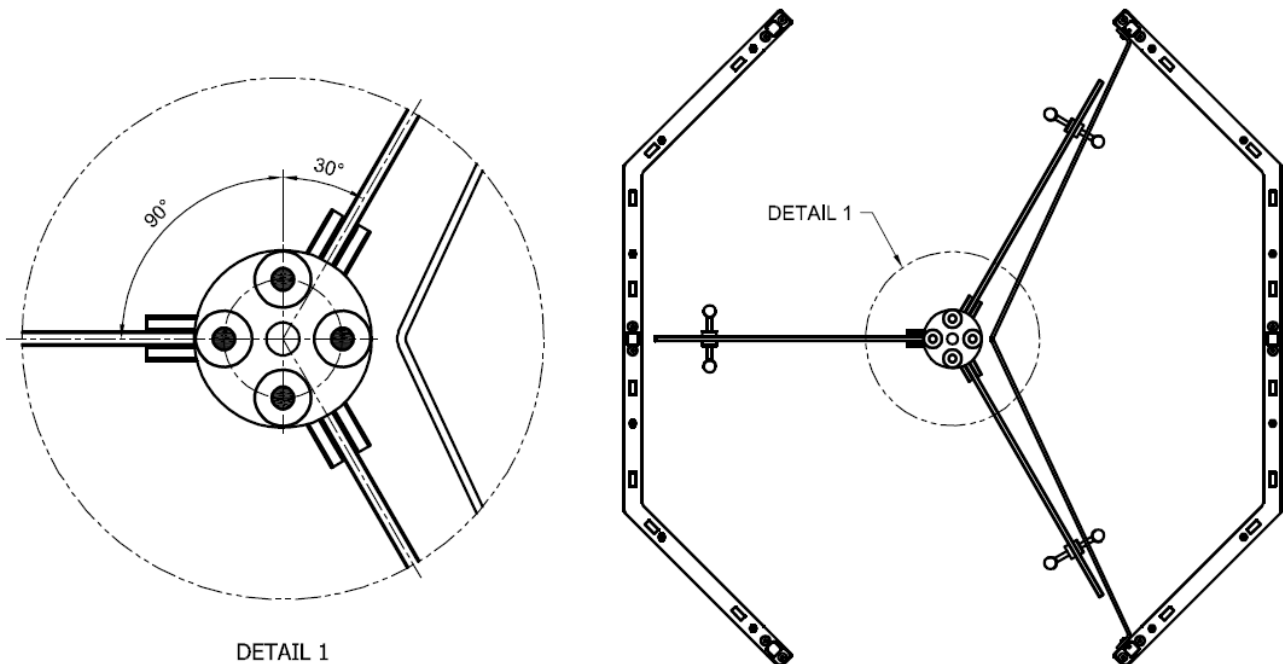

Figure 18: Rotor Alignment
- 8.5.4. Make sure the rotor is aligned correctly with the top disk in the correct orientation. See **Figure 18: Rotor Alignment**.